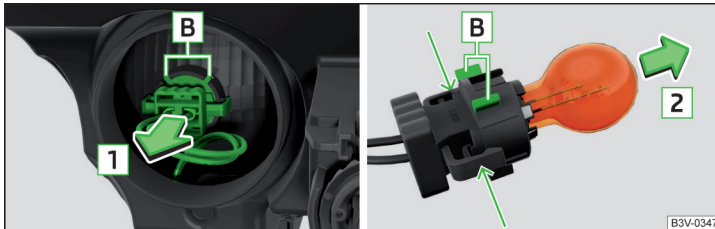

Fig. 361 Changing the bulb for the front turn signal light
- › Remove the holder with the bulb by jiggling it out in the direction of the arrow **1** » Fig. 361.